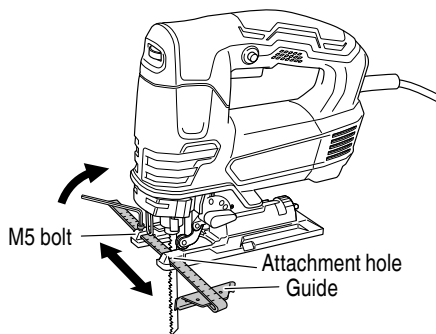

Fig. 13
- (3) Attach the guide by passing it through the attachment hole on the base and tighten the M5 bolt. (Fig. 13)